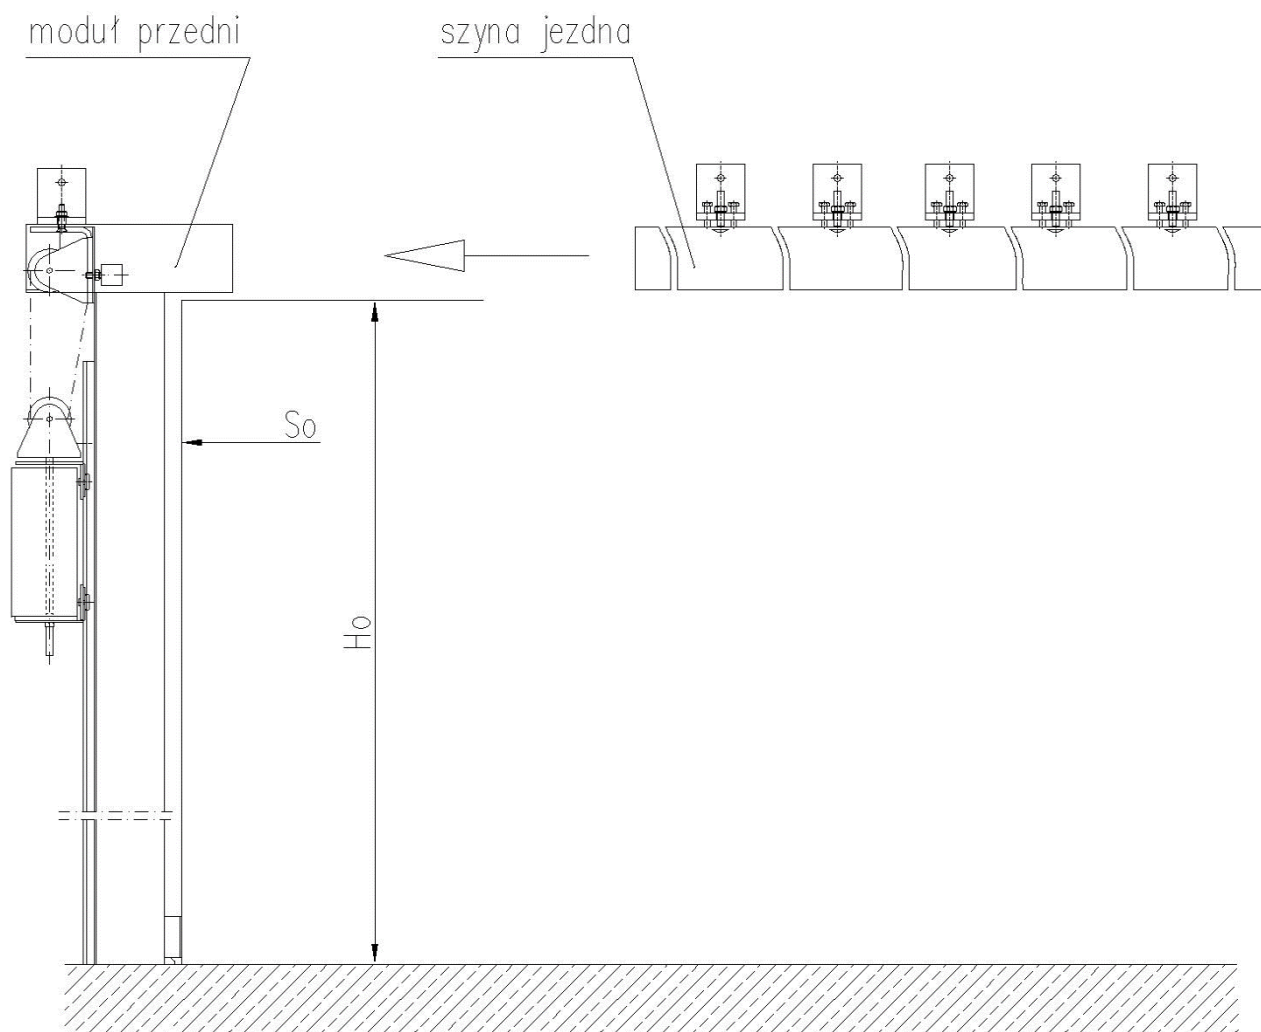

Figure 8: Installing the first guide rail length
- Slide the complete guide rail into the installed front module to the depth of approx. 20 cm, till you feel sharp resistance (Fig. 8);